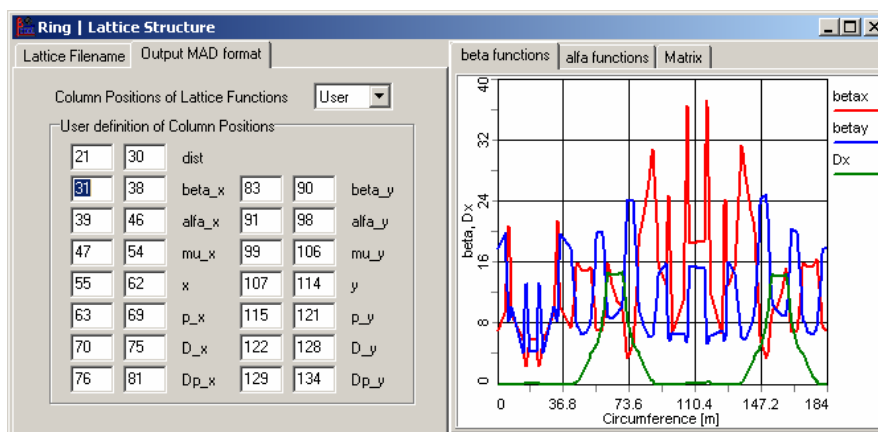

Fig. 14. **Ring | Lattice Structure Form. TabSheet Output MAD format**.
- the output file can be generated by mad8win.but file included into Betacool package (**MAD option**). The corresponding file specification can be chosen using *ComboBox Column Position of Lattice Functions* (Fig. 14).